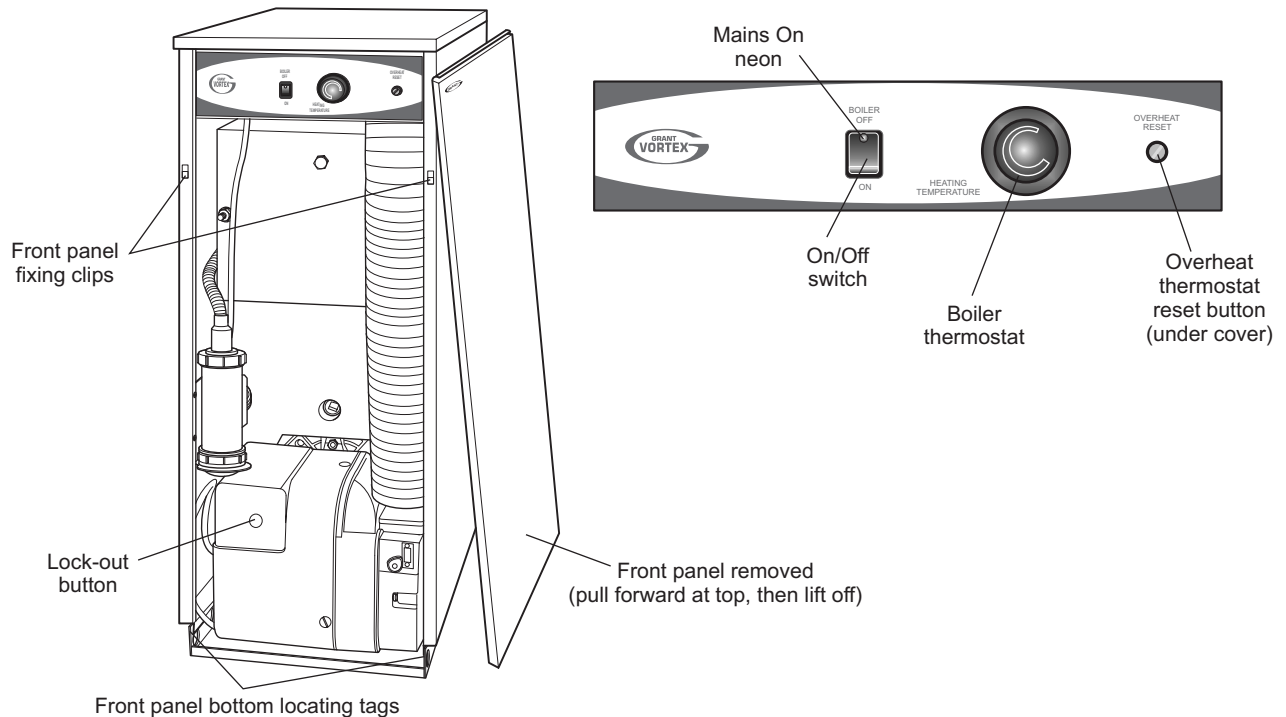

Fig. 21
8. Fit the boiler connector (from the CF adaptor kit) over the threaded studding. Position flange on to the neoprene gasket around the boiler flue outlet, ensuring that small spigot on the base of the connector is located in the hole in the centre of the neoprene gasket and that end of studding passes through the hole in the of the spacer bracket. Fit washer and wing nut provided onto end of threaded studding and secure connector in position by tightening down on wing nut – as shown in Fig. 21.
Refer to Fig. 21 for boiler controls